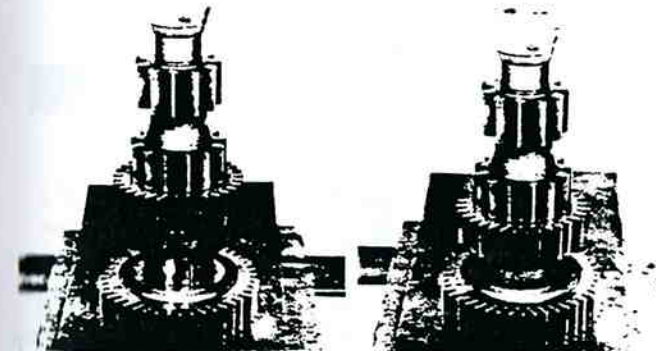

Figure 13-91. 3rd Speed Gear Installation.
5. Press the 3rd speed gear on countershaft, long hub toward 2nd speed gear (figure 13-91).